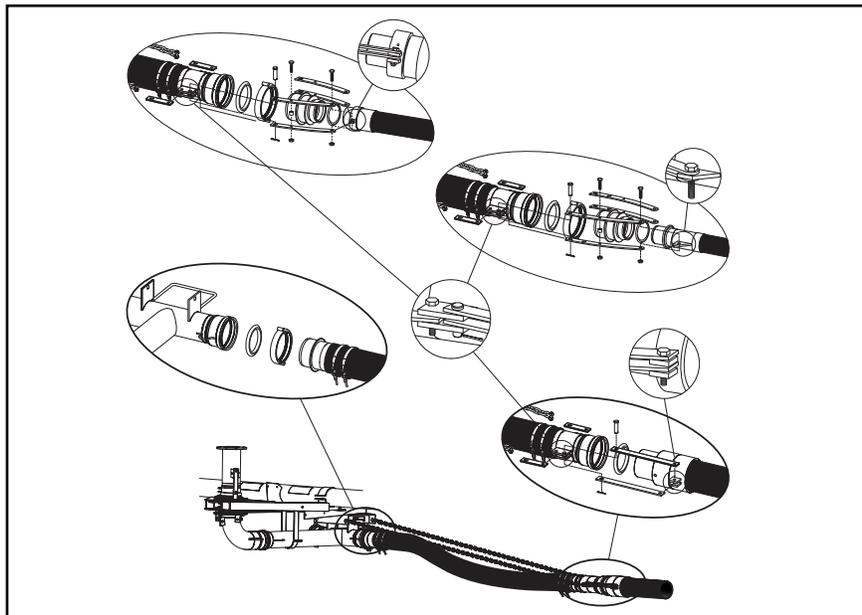

Figure 44-2 Swing-Around Tee Inlet Hose Couplers, Soft hose and Chains
- Swing-Around Tee Inlet hose couplers are secured to the inlet with a circle lock ring. See Figure 44-2.
- Soft hose requires the use of chains to pull the poly hose. See Figure 44-2.
- The Swing-Around Tee Inlet uses soft hose on the inlet end of the hose. See Figure 44-2.